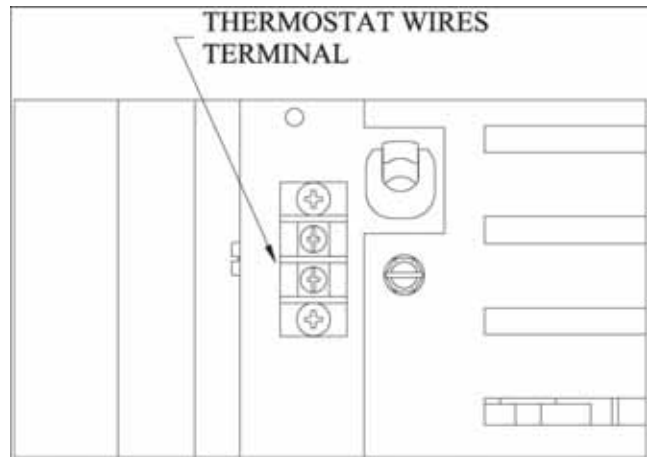

FIGURE 18
- Connect two thermostat wires to the terminal block located on the lower right side of the back of the stove. To do so, loosen the two screws and insert the wires in the terminals. Tighten the two screws. (See figure 18)